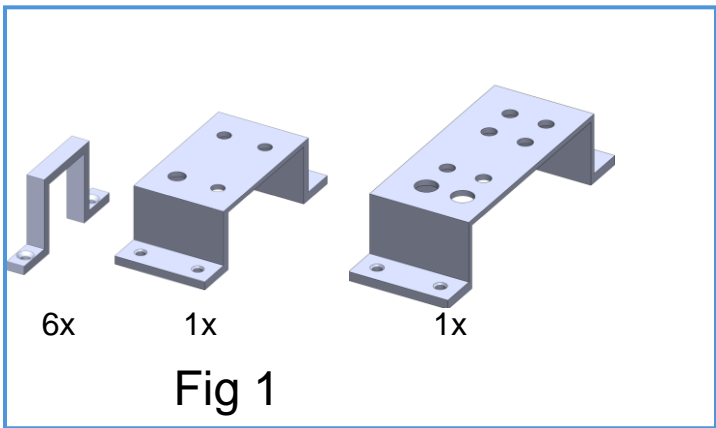

Fig 1
1. Step 1: Screw the 3D printed parts (Fig 1) in their desidered position onto the board;